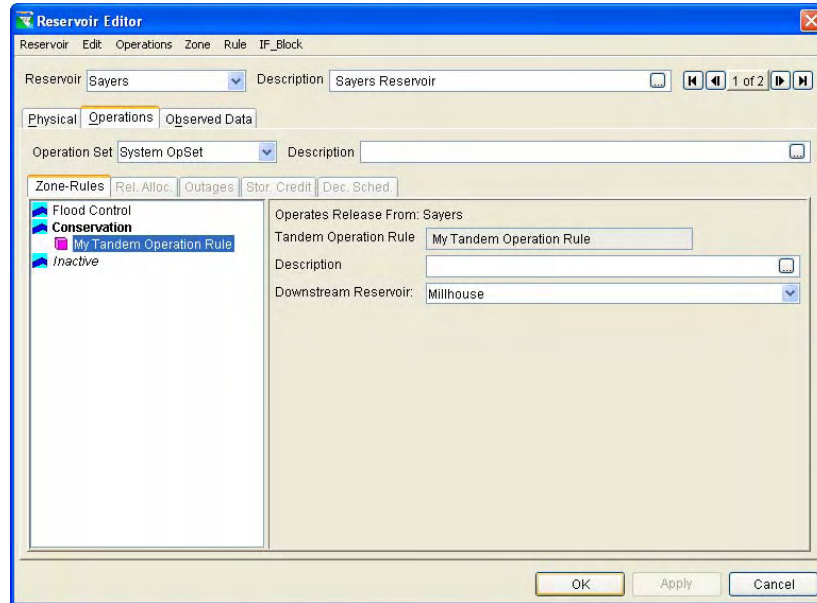

Figure 11.21 Reservoir Editor--Example of a Tandem Operation Rule
2. To define your Tandem Operation rule, highlight the rule in the operations tree of the reservoir editor (Figure 11.21). In the Edit Panel, you can enter a **Description**, and most importantly select the **Downstream Reservoir** for which the current (upstream) reservoir is operating.